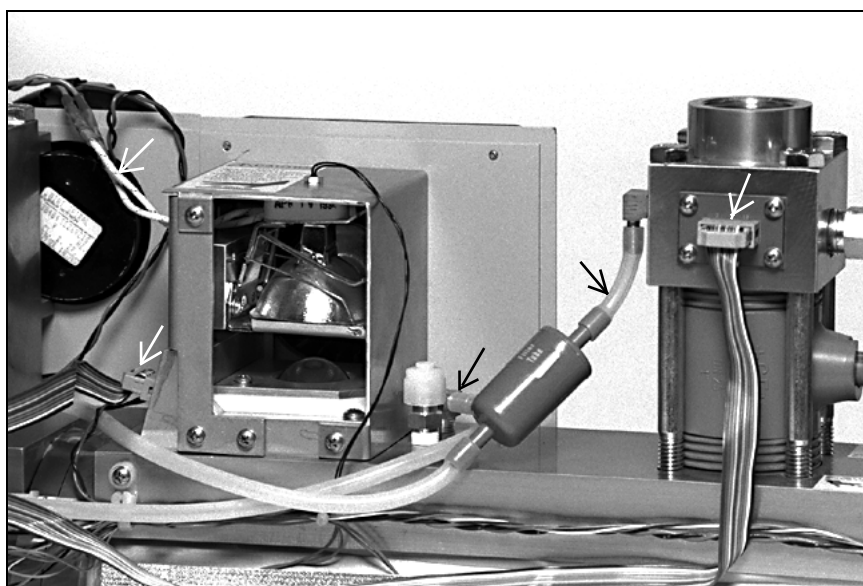

Figure 8-32
5. Using Figure 8-32 as a reference:
12. Using Figure 8-32 as a reference: